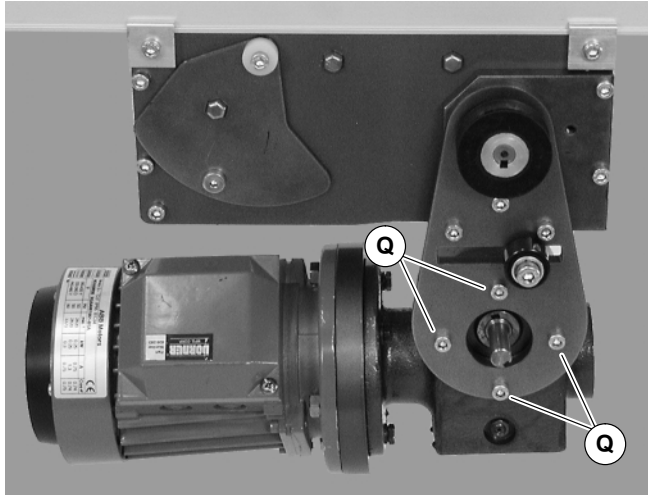

Figure 15
4. Remove four (4) gear reducer mounting screws (Q of Figure 15). Remove gearmotor.
12. Install gearmotor to mounting bracket and tighten screws (Q of Figure 15) to 103 in-lb (12 Nm).